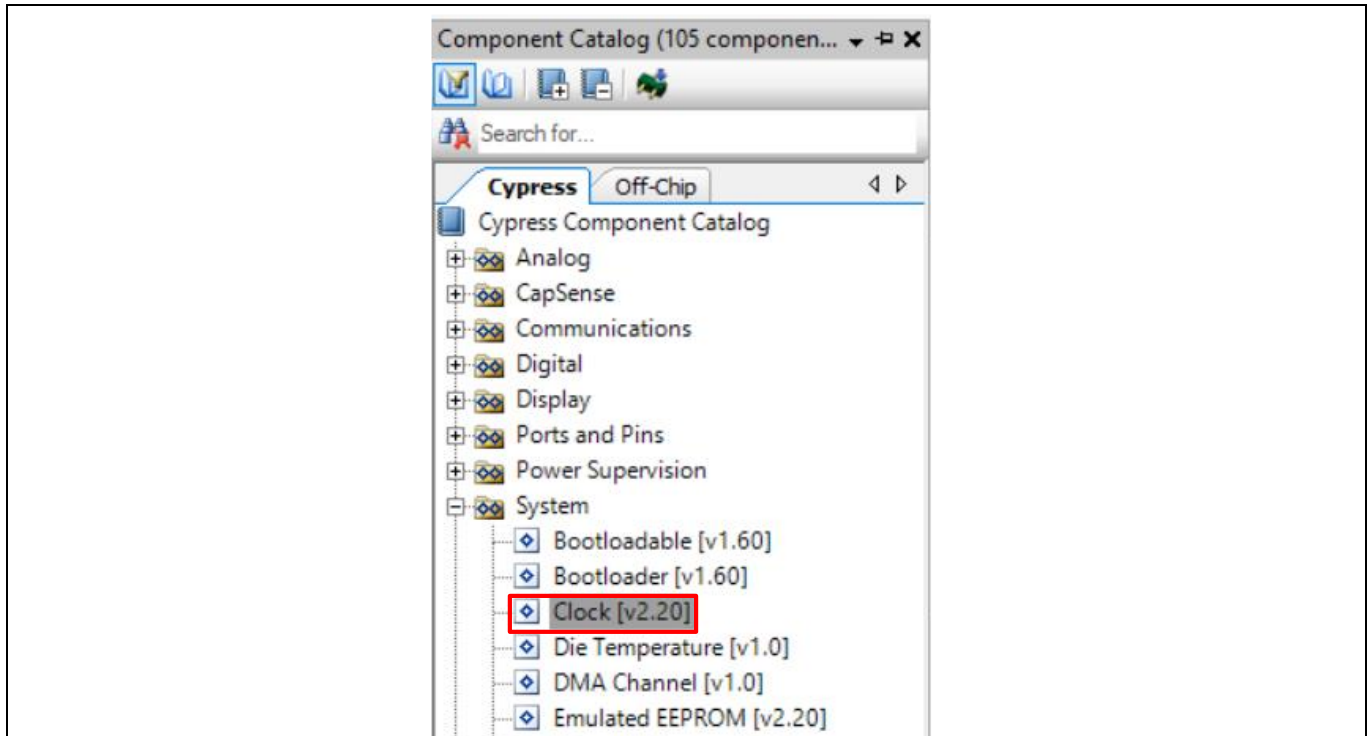
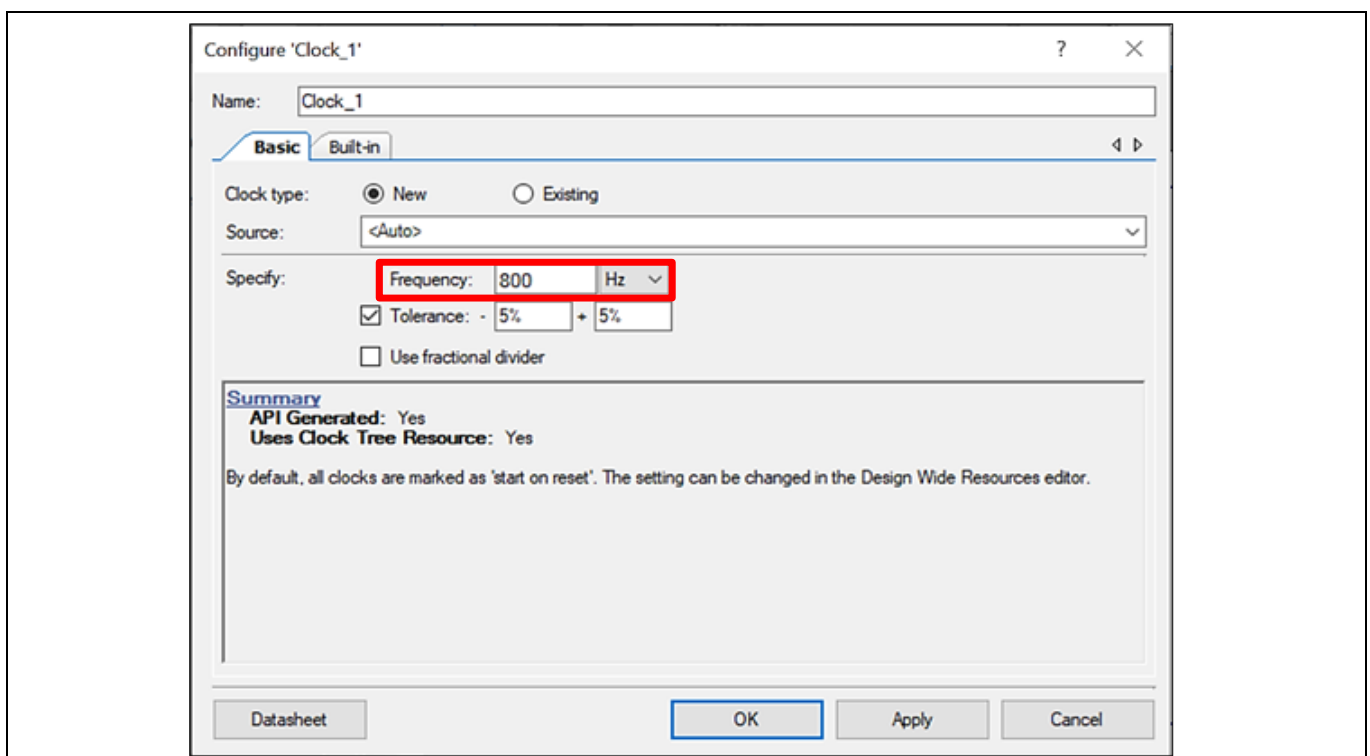

Figure 40 Location of the clock Component
Figure 41 Configuring the clock Component
- 8. A PWM Component requires an input clock for its operation. Drag and drop a **Clock** Component onto the schematic, and configure the **Frequency** to 800 Hz by double-clicking on the Component, as shown **Figure 40** and **Figure 41**. Since the Prescaler value set in PWM Component is 8, the effective input clock of the PWM is only 100 Hz. Therefore, the PWM period of 254 results in a PWM output time period of 2.54 seconds.